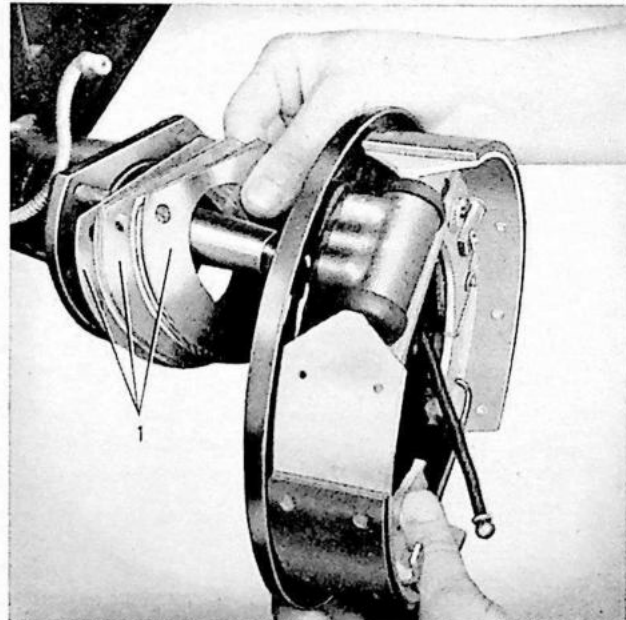
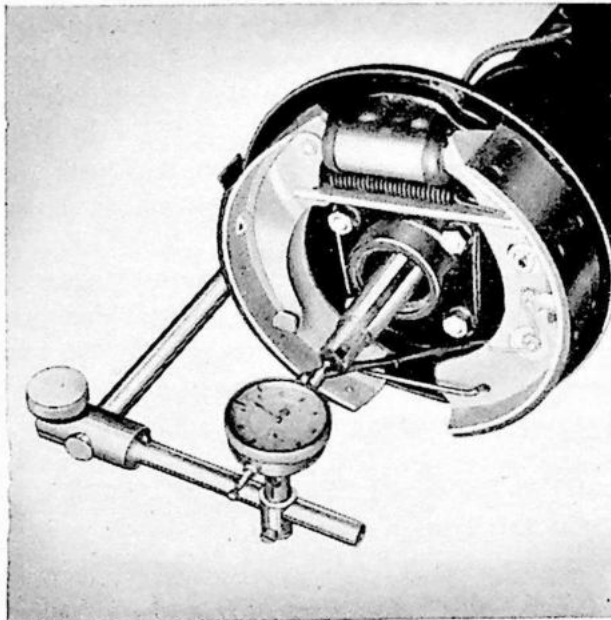

Fig. 44. Fitting brake backing plate.
Fig. 45. Measuring axial clearance of drive shafts.
4. Fit the brake backing plates with shims (46) and retainer (8) with felt seal, see fig. 44. Check and if necessary adjust the drive shaft axial clearance, see fig. 45. The clearance is given in the specifications.